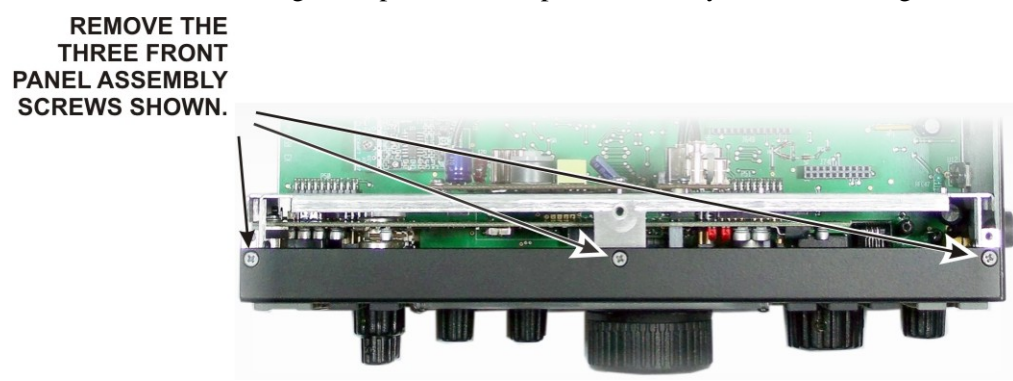

Figure 4. Removing the Top Front Panel Screws.
Remove the three screws securing the top of the front panel assembly as shown in Figure 4.
**⚠ CAUTION:** Before continuing on with the next step, be sure you have removed the three top Front Panel Assembly screws shown in Figure 4. You may bend and damage the front panel or shield assemblies if the screws are not removed!
- Fasten the top of the front panel assembly with three 4-40 3/16" (4.8 mm) black flat head screws (see Figure 4).